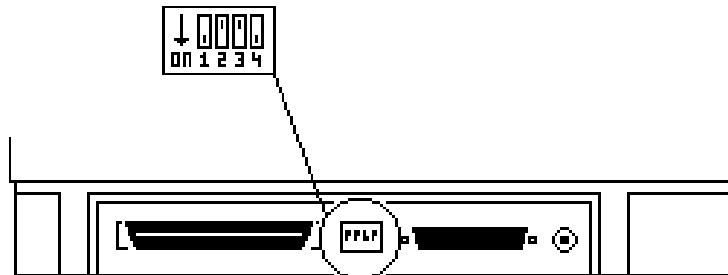

Figure 3: Dipswitch location
You can set the ID number for this scanner using the dip switches on the back of the scanner (see figure 3).
3. In 'Program Manager' select the 'Run' option from the 'File' menu. See figure 3.